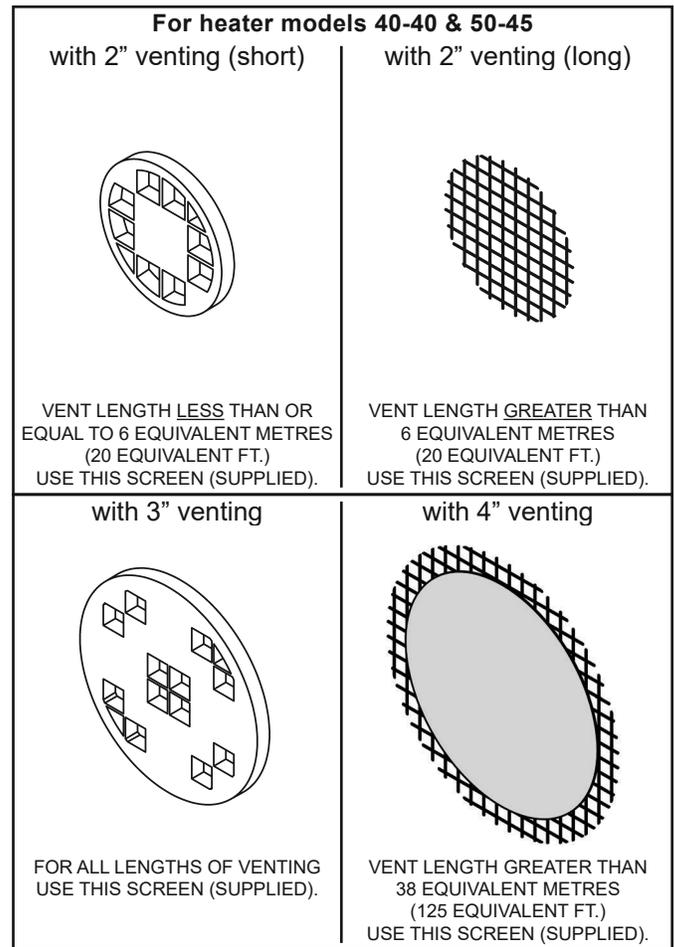
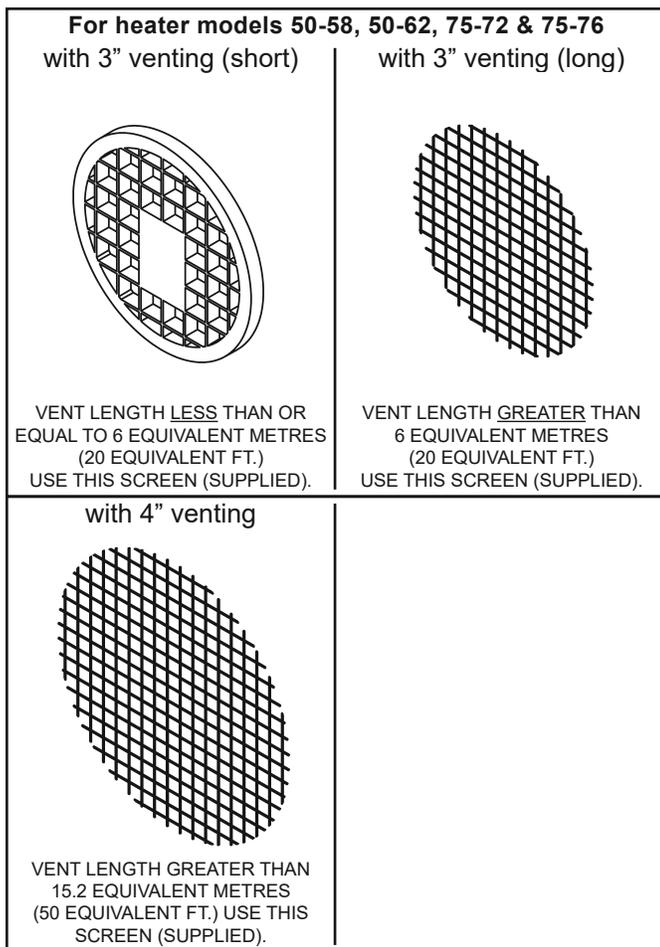

Figure 32.
Figure 33.
\* see Figure 32 and Figure 33
Use the appropriate vent termination screen as shown in Figure 32 & Figure 33. Install the vent termination screen in both the air intake pipe and the exhaust pipe.
This water heater includes one (1) pair of more restrictive vent screens and one (1) pair of less restrictive vent screens (see Figure 32 & Figure 33). For safety and optimum efficiency performance, ensure the correct vent screen is installed for the vent length in your installation. A vent screen is required to keep foreign objects, rodents and small birds from entering the venting system. These screens have been sized to ensure maximum energy efficiency of the vent system based on the “equivalent length” of the vent piping. **CHOOSE ONLY the ONE SCREEN THAT MATCHES YOUR VENTING CONFIGURATION** (see Figure 32 & Figure 33). The vent screen **MUST** be installed for proper operation of the water heater. How to determine the “equivalent length” is shown in Table 5.
- Supplied with this heater are several vent screens (see Figure 32 & Figure 33).